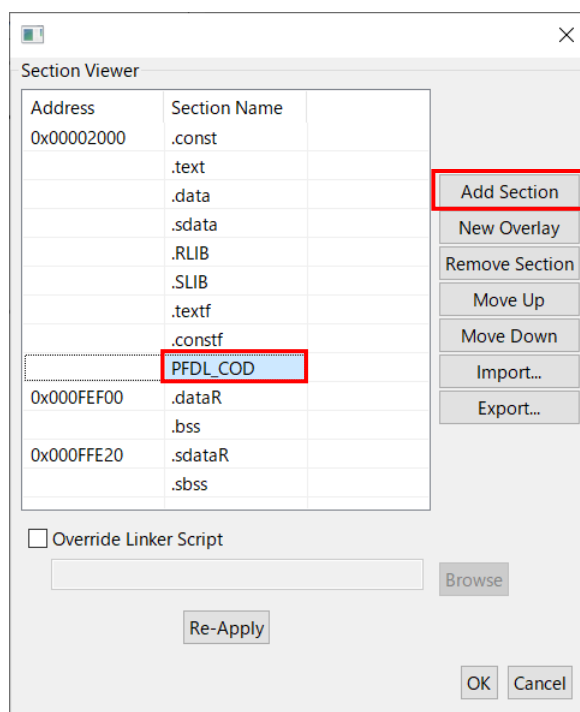

Figure 8-4. Example of Section Settings for the Data Flash Library when Using e² studio (ROM Area)
- Setting of the section items on e² studio inputs in the “Properties” window. Select “C/C++ Build” [Setting] - “Linker” [Section]. And set section items on the displayed screen. Remove a check mark to [Layout sections automatically(-auto_section_layout)]. Press the “” button of the right-hand side which sections are displaying, and a “Section Viewer” screen is displayed and add the sections necessary for the data flash library to the ROM area (Figure 8-4).